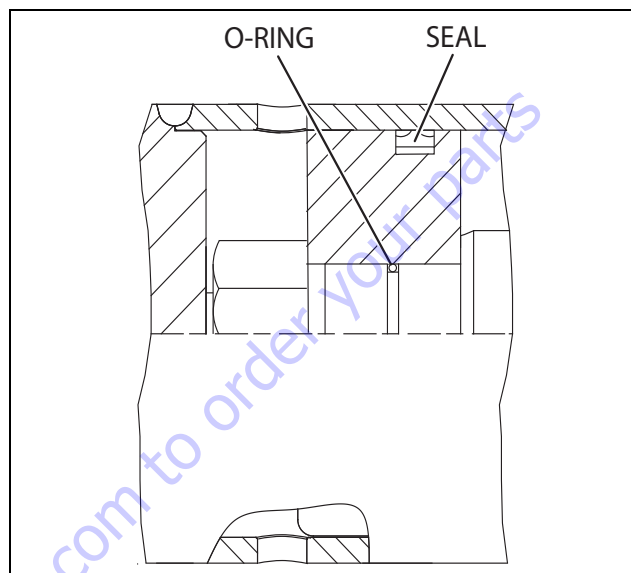
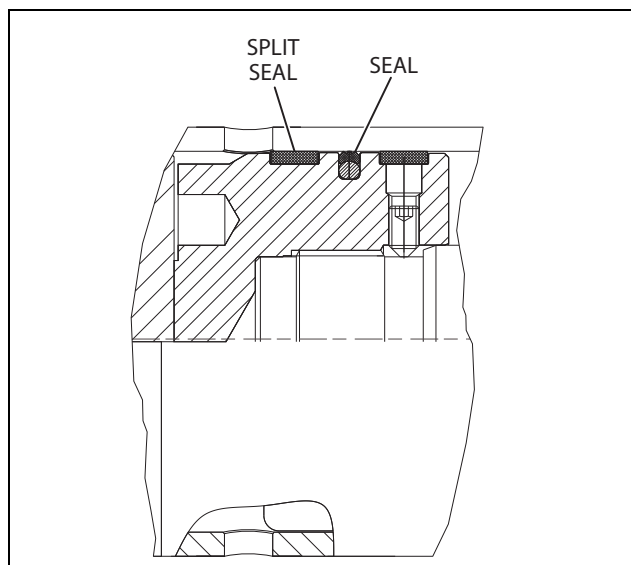

Figure 5-128. Piston Seal Kit Installation
Figure 5-129. Piston Seal Kit Installation
- Place a new o-ring in the inner piston diameter groove. (See Figure 5-128.)
- Place new seals in the outer piston diameter groove. (A tube, with I.D. slightly larger than the O.D. of the piston is recommended to install the solid seal). (See Figure 5-128. and Figure 5-129.)